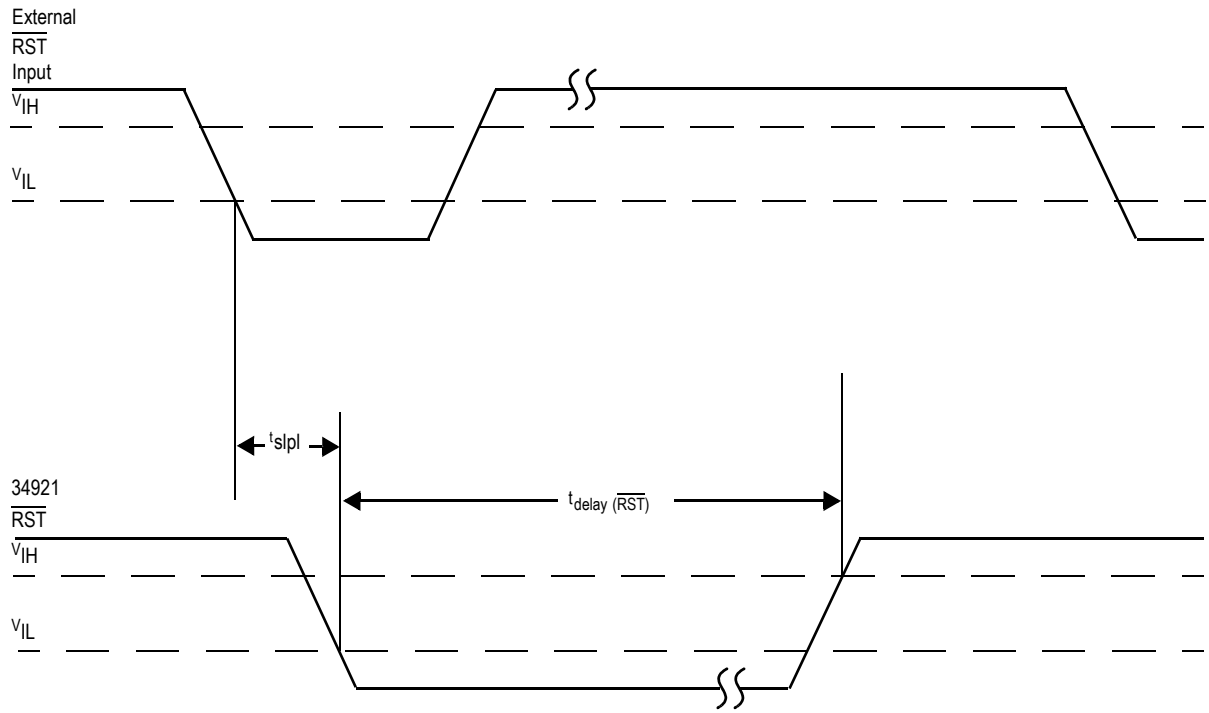

Figure 6. $\overline{RST}$ Timing
25. See Figure 6. RST Timing, page 17.